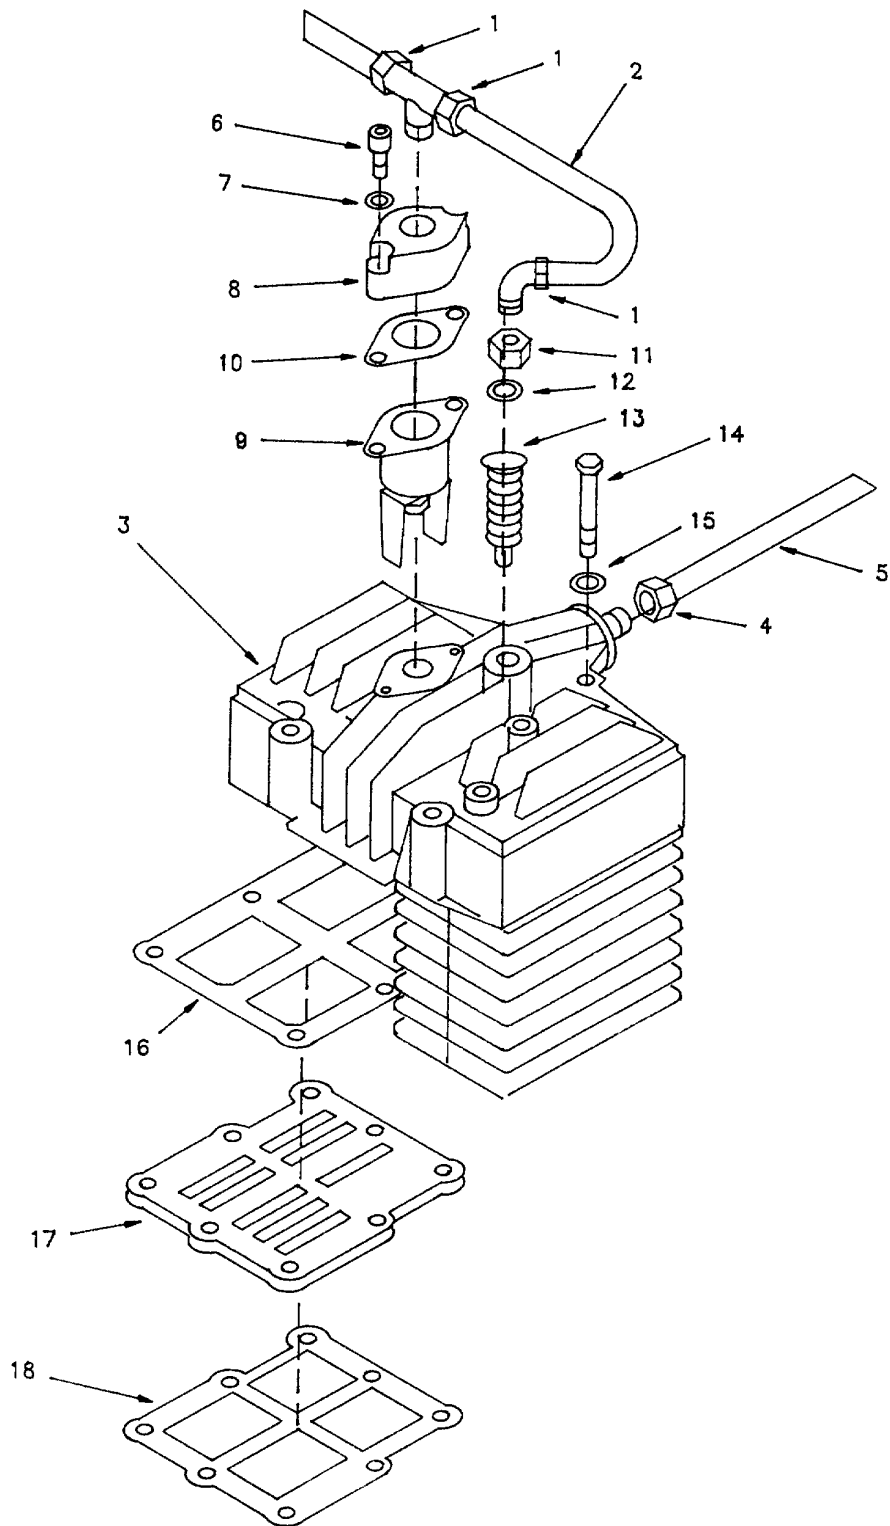

Figure 5-10. Compression Valve Plate and Unloaders.
- (1) Remove hexagon tube nuts (1, Figure 5-10) and nonmetallic tubes (2) from compressor cylinder head (3).
- (2) Remove tube nut (4) and metallic tube (5) from compressor cylinder head (3).
- (3) Remove cap screws (6), spring tension washers (7), upper cover (8) of low pressure magnetic unloader (9), and gasket (10).
- (4) Remove low pressure magnetic unloader (9).
- (5) Remove high pressure relief valve cover (11), preformed packing (12), and unloading piston and piston spring (13).
- (6) Remove cylinder head bolts (14), spring tension washers (15), and cylinder head (3).
- (7) Remove cylinder head gasket (16).
- (8) Remove compression valve plate (17) and gasket (18).